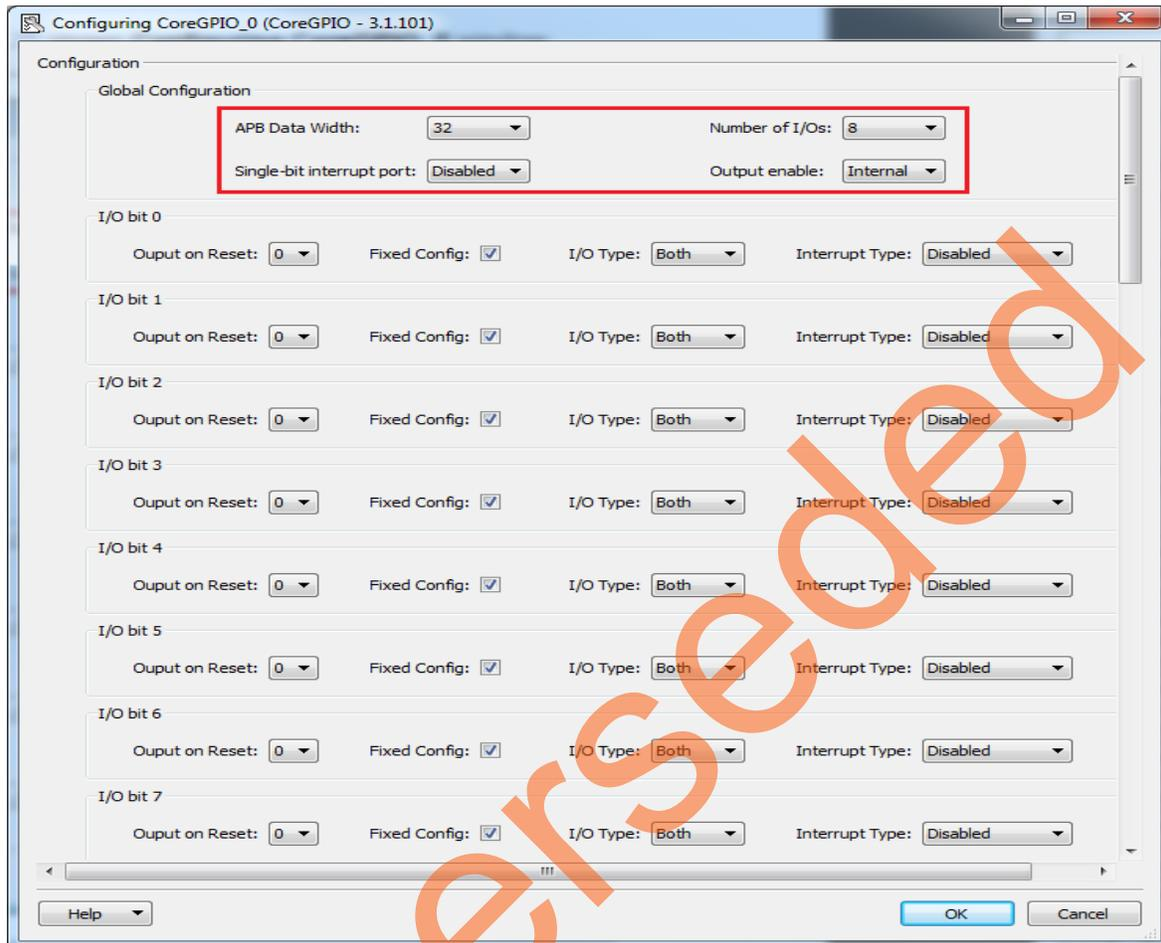

Figure 23 • Configuring CoreGPIO_0
3. Double-click **CoreGPIO** to configure it. Figure 23 shows **Configuring CoreGPIO_0** window.